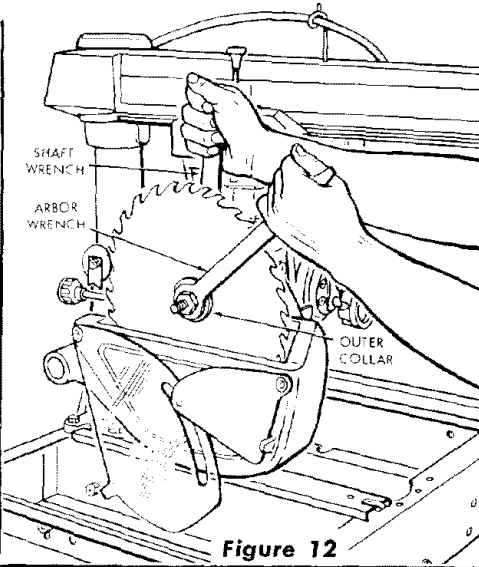

Figure 12
- b. Place the arbor wrench on the shaft nut and the shaft wrench on the hex portion of motor shaft just inside the saw blade. (See figure 12.)
- c. Hold the shaft wrench and rotate the arbor wrench downward to loosen the shaft nut. The motor shaft has left-hand threads. (See figure 12.)